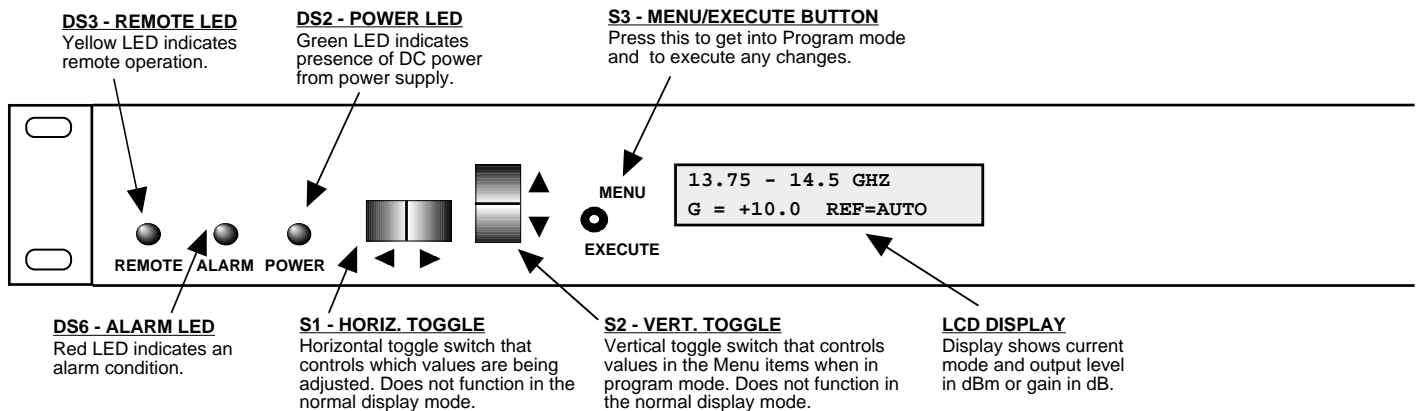

FIGURE 2.2 3116-140 Front Panel Controls and Indicators
Figure 2.2 shows the front panel controls and indicators.
6. Be sure DS2 (green, DC Power) is on and DS6 (red, Alarm) is off (Figure 2.2).
Alarm indications appear on the LEDs (see Figure 2.2).